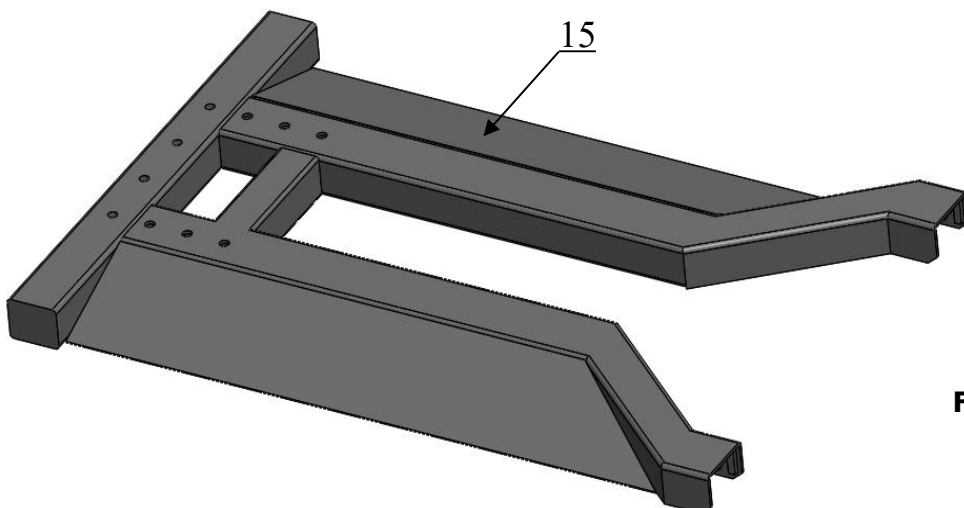

Fig.10
C. Confirm the installation position and place the base onto it.. (See Fig.10)